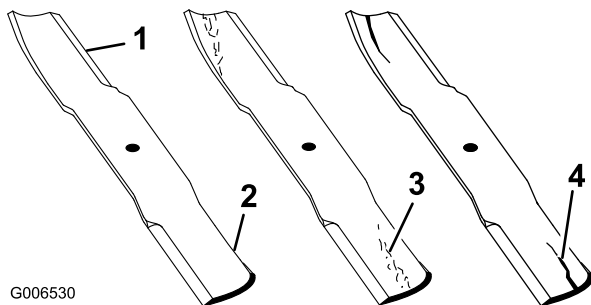

Figure 89
1. Inspect the cutting edges (Figure 89).
2. Inspect the blades, especially the curved area (Figure 89).
If you notice any damage, wear, or a slot forming in this area (Figure 89), immediately install a new blade.